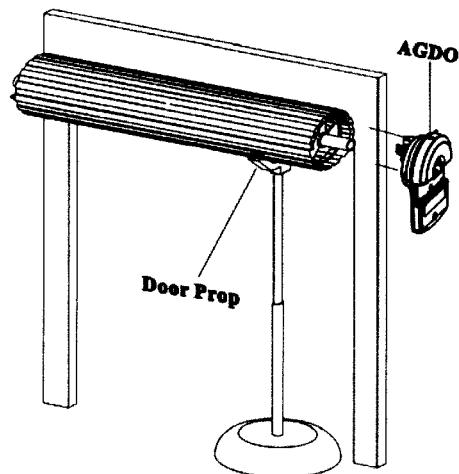

Fig 5
- 1.7 Remove the garage door mounting bracket from the wall. (Fig.5)